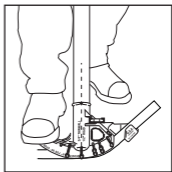

Figure 2
3. Place one foot on the pedal of the bender and apply pressure while pulling back on the handle (Maintain pressure on conduit through bend). Please see Figure 2.